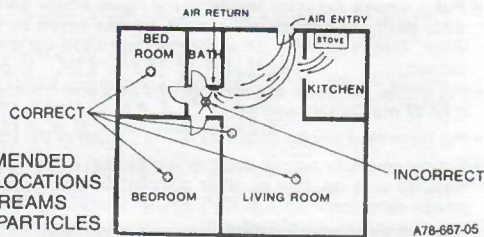

Figure 6: RECOMMENDED SMOKE DETECTOR LOCATIONS TO AVOID AIR STREAMS WITH COMBUSTION-PARTICLES
- In air streams passing by kitchens. Figure 6 shows how a smoke detector can sense combustion products in normal air-flow paths. The picture shows how to correct this problem.